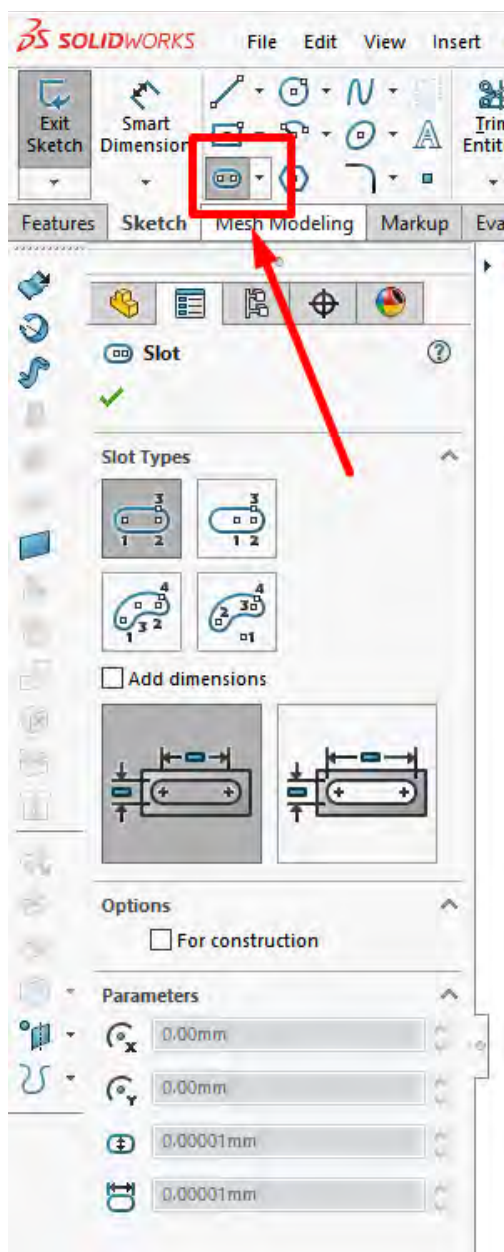

Fig. 7
- **Straight Slot:** Use to create straight slots with precise positioning and dimensions (Fig. 7).